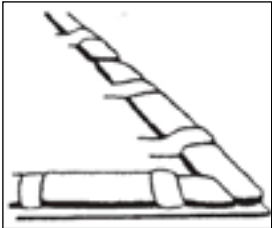

figure 4
4. Insert empty water tubes into loops. The water tubes must cover the entire perimeter of the cover to prevent wind from getting under the cover and causing the cover to billow or flap. *CAUTION:* Such billowing or flapping in the wind can cause serious damage to your cover. Therefore, be sure the water tubes are placed end to end as in *figure 4*.